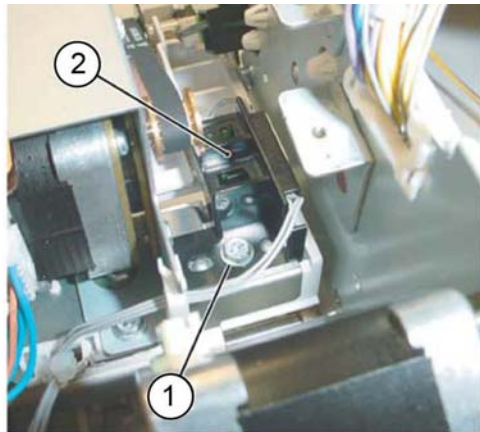

Figure 3 Front tamper home sensor assy removal
8. Remove the front tamper home sensor assembly, Figure 3:
- a. Remove the screw (1).
- b. Remove the front tamper home sensor assembly (2).